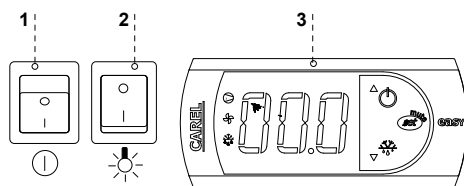

Fig.11 Device control panel
- Turn on the main switch Fig.11/1, which activates the temperature regulator, and then aggregate of the device
- Set the temperature on thermostat control panel Fig.11/3 (thermostat service details on p.21 or 22)
- Turn on the lighting switch Fig.11/2